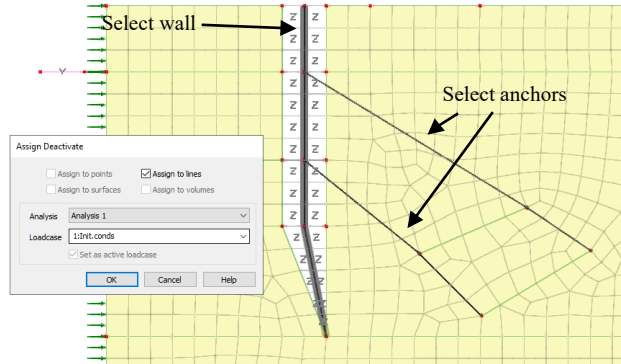

Figure 41: Deactivate wall and anchors
- Now, select the wall and anchors and assign the deactivation attribute **wall and anchors** to them (Figure 41).